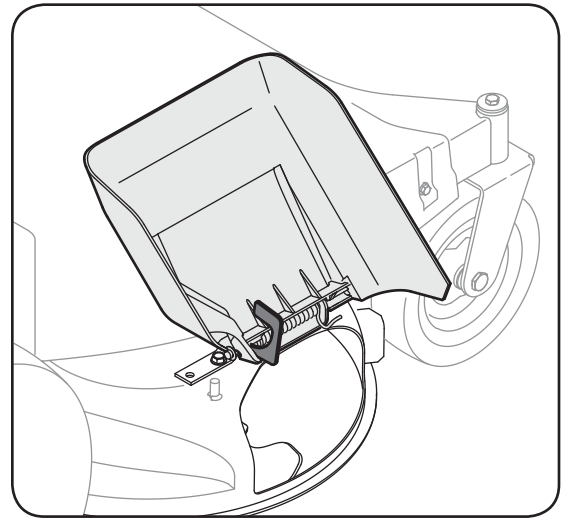

Figure 3-1
- Locate the shipping brace, if present, found on the right side of the cutting deck. See Figure 3-1.
- Make certain the retaining rod is in position over the battery, securing it in place and make sure the red rubber boot covers the positive battery terminal to help protect it from corrosion. See Figure 3-1.